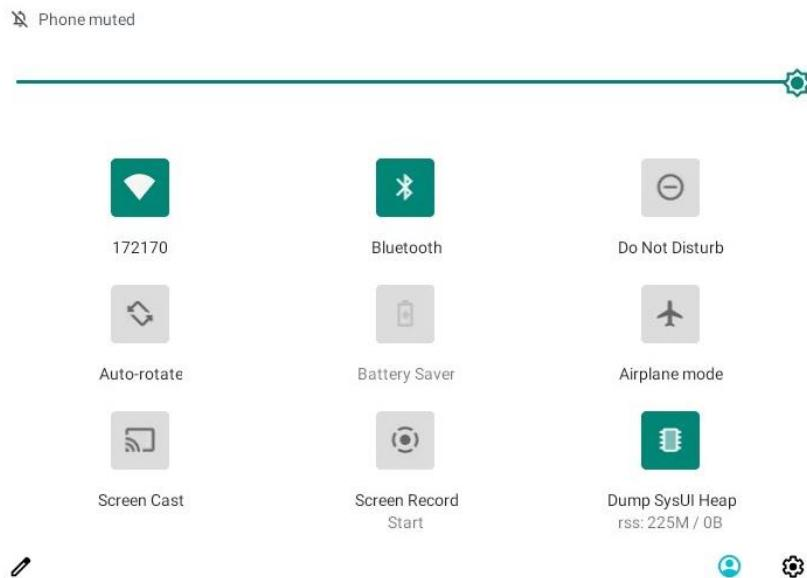

Fig. 21 Control Center
- 2) Press and hold the status box, and slide down, the "Control Center" interface, such as Fig. 21.
- 2) Press and hold the status box, and slide down, the "Control Center" interface, such as Fig. 21;